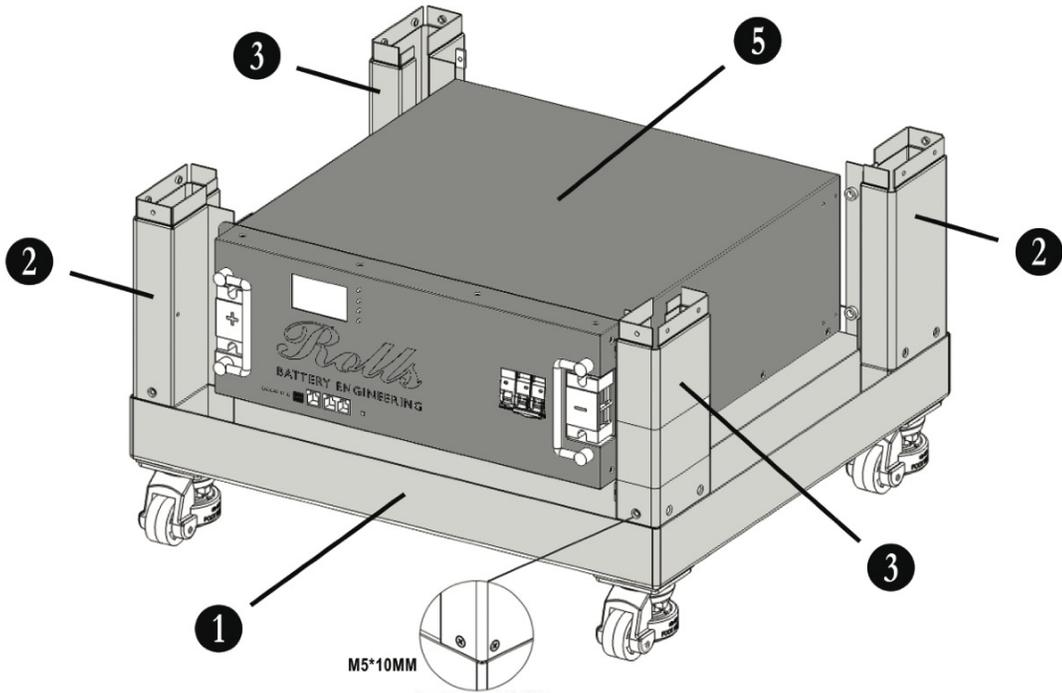

Figure 1.0
- 1.1 Install two left ② and two right ③ columns into the cabinet bottom assembly as shown in Figure 1.0. Fasten at the base of each column using three of the supplied 10mm M5 screws.